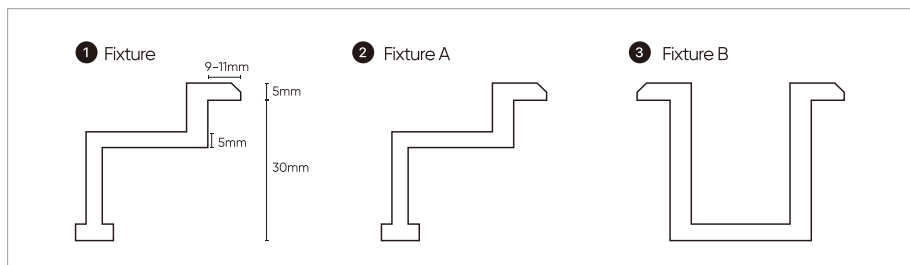

Figure 2: Fixture Diagram of regular PV Module
a) The regular module needs to be fixed to the photovoltaic bracket using a metal fixture (the fixture shown in Figure 2 is recommended) or other fixtures that have passed the industry tensile or environmental application test. The fixture is mainly used to secure the photovoltaic module. Therefore, when selecting the appropriate fixture, especially a custom fixture, ensure to conduct the load test on both sides to guarantee the safety and stability of the module.